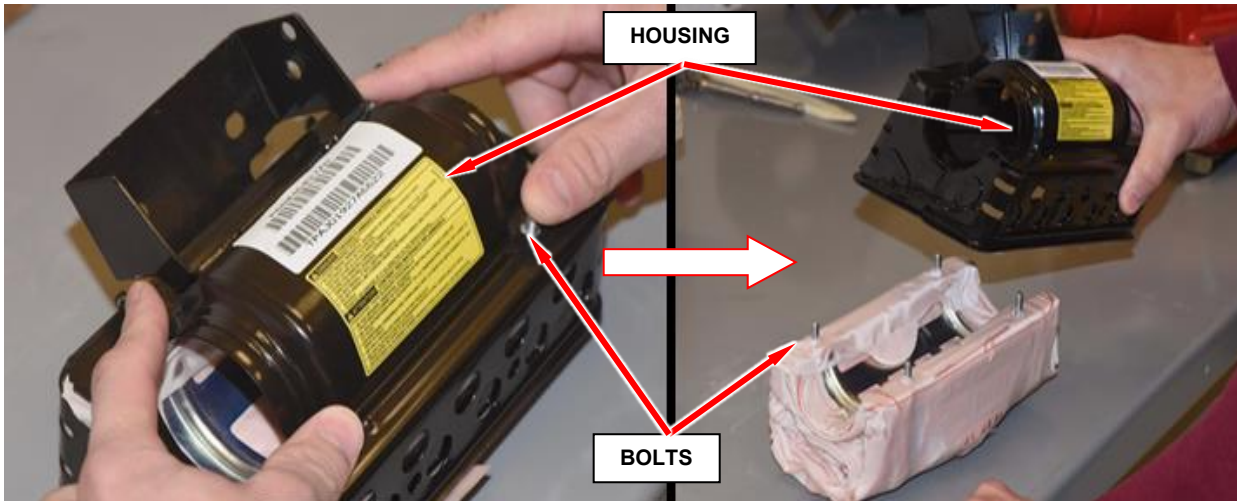

Figure 15 - Remove Airbag Cushion from Housing
- e. Remove airbag cushion from housing by applying pressure to the bolts, set cushion aside (Figure 15).